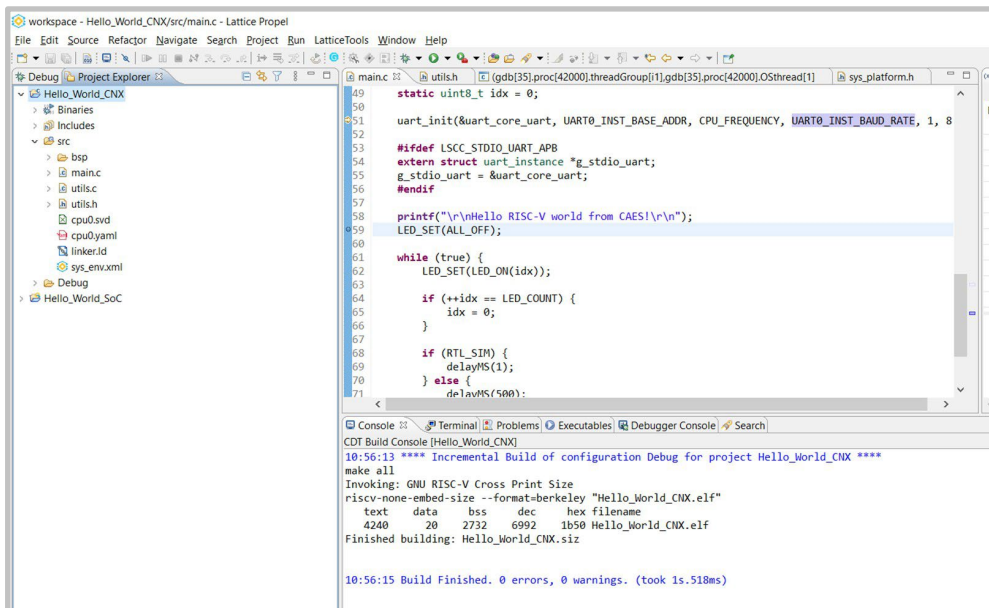

Figure 12: Generated Hello World Project
9. The template creates the source code for the “Hello World” project and the **BSP** based on the **RISC-V SoC** design, see **Figure 12**.